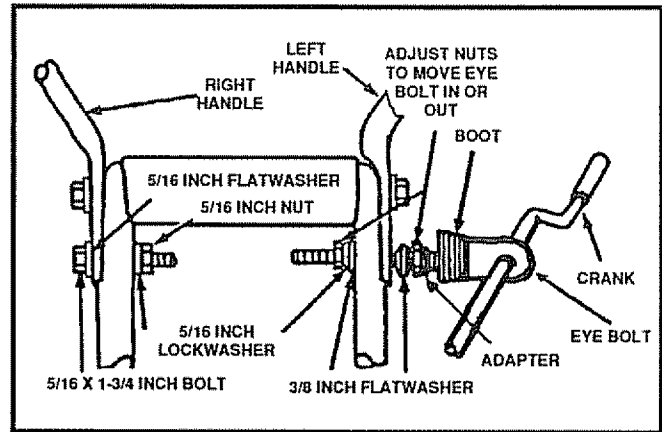

FIG. 4
- On the right side of the handle, install the following (found in parts bag) in the lower hole as shown in figure 4: